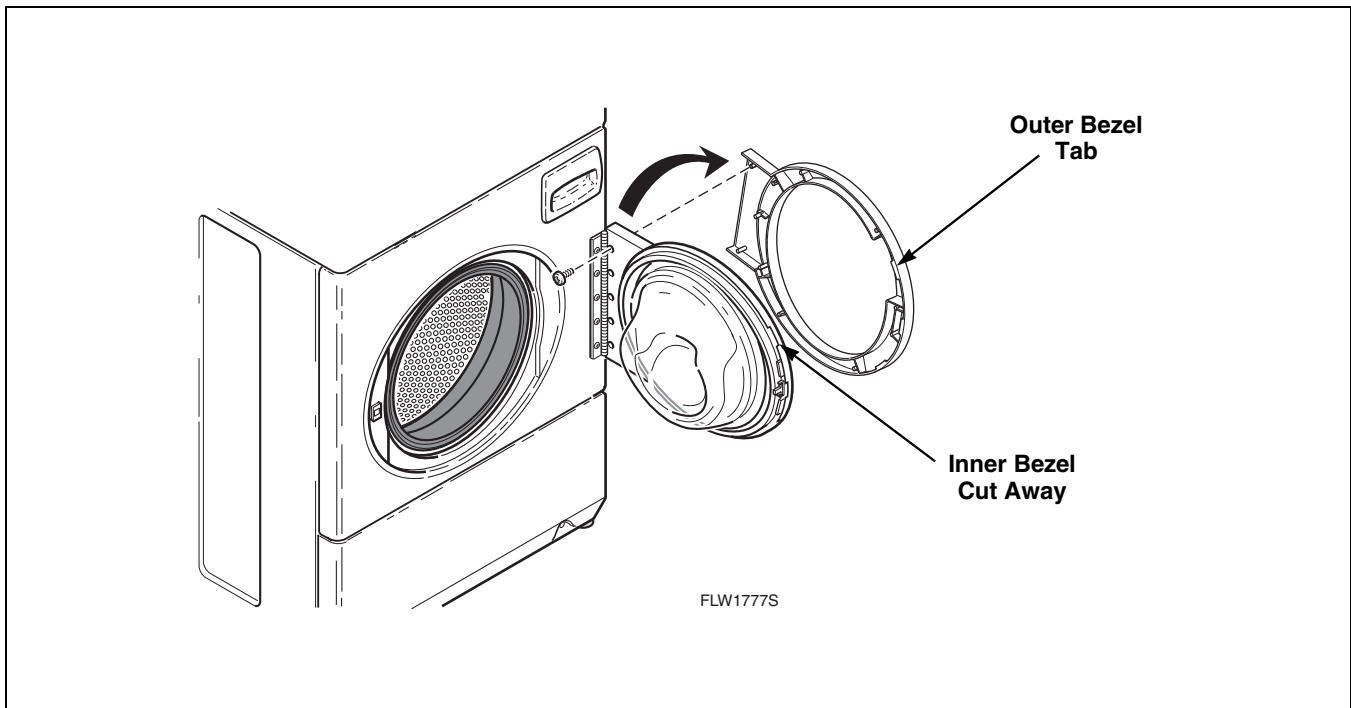

Figure 6
- b. Remove 11 T-20 Torx head screws holding outer door bezel to inner door bezel. Refer to *Figure 6*.
- c. Pull hinge side of outer bezel away from door and slide forward. Refer to *Figure 6*.
- j. Reinstall outer door bezel by aligning outer bezel tabs with cut aways on inner bezel and sliding outer bezel into position. Refer to *Figure 6*.